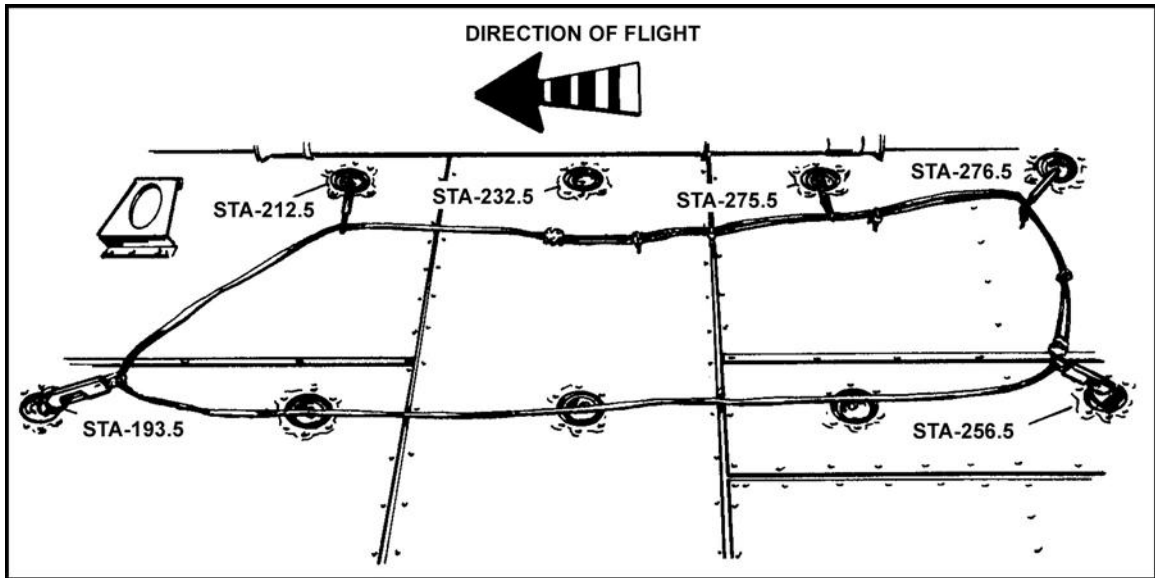

Figure 18-10. CH/HH-3 anchor line cable.
(1) Install the oval-shaped anchor line cable on the starboard side of the aircraft's floor using the tie-down fittings at station number 193.5 (right of center) as the port side forward attachment point, station number 212.5 as the starboard side forward attachment, station number 256.5 as an intermediate starboard side attachment point, and station number 276.5 as the starboard side rear and port side rear attachment points (Figure 18-10).
(2) The anchor line cable is constructed of 1/4-inch diameter, 6,400-pound test steel cable. Thread the anchor line cable through four static line snap hooks, where the static line is normally attached. These static line snap hooks connect the anchor line cable to the tie-down fittings. Complete the oval by overlapping both ends of the steel cable, then by securing the overlap with four cable clamps spaced intermittently between the swaged cable ends.
(3) Manufactured cables have the date of initial manufacture and weight testing capacity (2,500 pounds) permanently marked on the starboard side forward static line snap hook. Inspect cables each time the anchor line cable is installed for jumping. Remove from service cables showing excessive wear, corrosion, or more than three broken strands per inch. Weight test cables to a 2,500-pound capacity within each 12-month calendar period. (For example, cables weight tested on 1 January will be due weight testing by 31 January the following year.) Document annual weight testing on a DD Form 1574, which is attached to the cable.